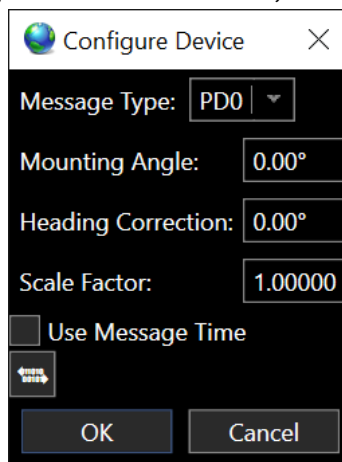

FIGURE 18-7 TRDI DEVICE CONFIGURATION
4. Configure the ADCP device, click the  configure device/device settings button on the device page to open the Configure Device window, see Figure 18-7.